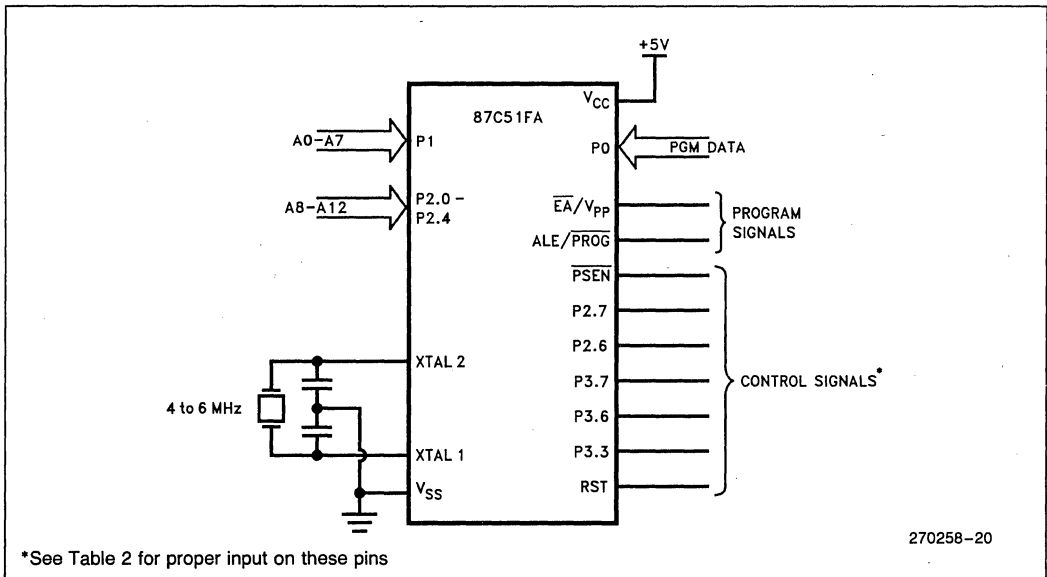

Figure 10. Programming the EPROM
To be programmed, the part must be running with a 4 to 6 MHz oscillator. (The reason the oscillator needs to be running is that the internal bus is being used to transfer address and program data to appropriate internal EPROM locations.) The address of an EPROM location to be programmed is applied to Port 1 and pins P2.0 - P2.4 of Port 2, while the code byte to be programmed into that location is applied to Port 0. The other Port 2 and 3 pins, RST PSEN, and \overline{EA}/V_{PP} should be held at the "Program" levels indicated in Table 2. ALE/PROG is pulsed low to program the code byte into the addressed EPROM location. The setup is shown in Figure 10.
Refer to Table 2 and Figures 10 and 11 for address, data, and control signals set up. To program the 87C51FA the following sequence must be exercised.
5. Pin numbers deleted from Figure 10.